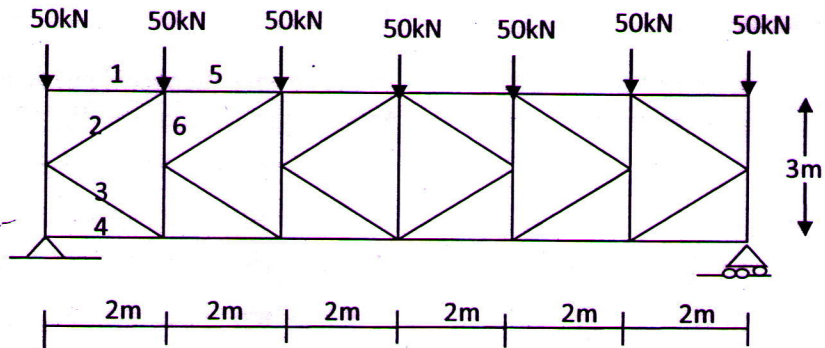

Figure 4
- b) Analyse and determine the forces in the selected members in the plane truss in Figure 4 by method of sections 12